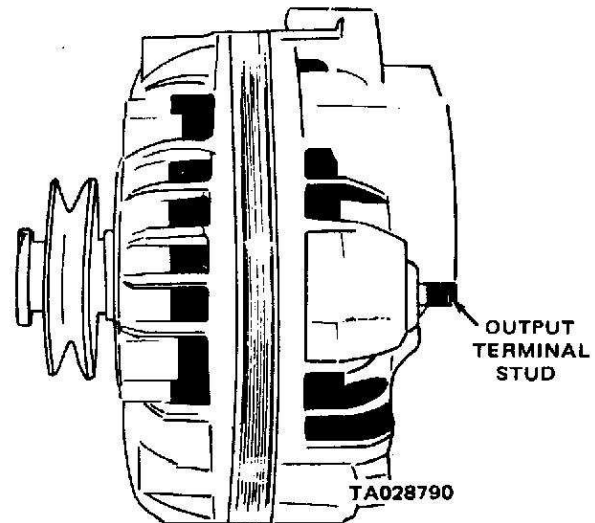

Figure 2-39. Alternator.
b. *Alternator.* The alternator (figure 2-39) rectifies its a.c. output into d.c. through six built-in silicon rectifiers. The alternator's main components are the rotor (field) stator, rectifiers, end shields, and drive pulley.
(1) Check the fan belt for proper tension (1/2 to 3/4 inch deflection). Tighten the belt if it is loose. If the belt is okay, go to step 2.
(2) With the multimeter set to read at least 15 volts d.c., connect the red lead to the alternator output terminal stud (figure 2-39) and the black lead to a good ground.